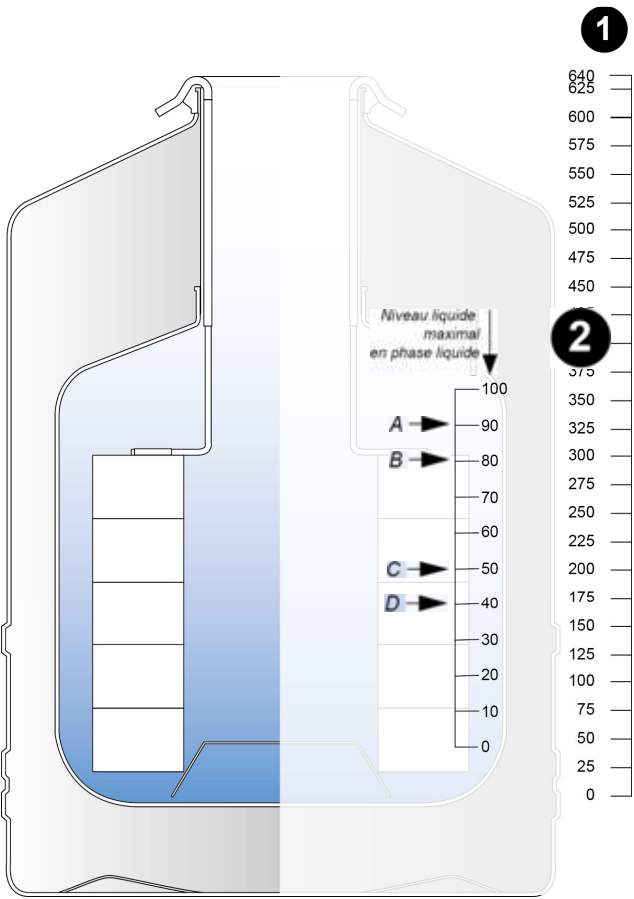

Figure 15-2: Arpège 40 – Liquid phase – measurement scale
- **Four successive presses in less than 2 seconds:** tank filling is launched. It is automatically stopped when the High level (UCL) is reached (see Figure 15-2 to Figure 15-19). The blowdown function is activated if the option is present and the temperature on the blowdown sensor is not reached.